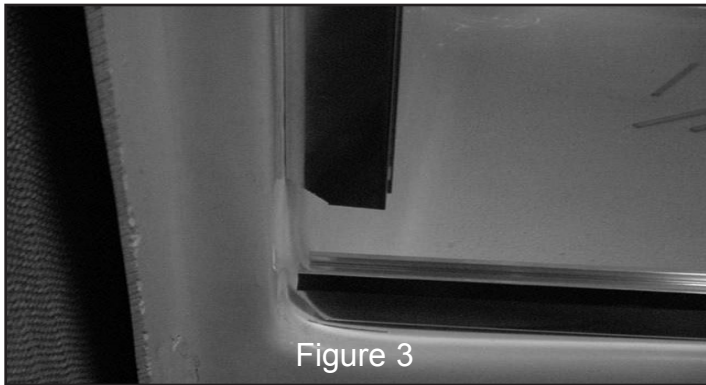

Figure 3
C. If this unit is being installed in a fiberglass pan, cut the Bottom Curb/Sill (#2), Slip Jamb Male (#5) and the Wall Jamb (#6) at a slight angle (about 45°) where they meet to accommodate the rounded corners of the pan (See Figure 3).